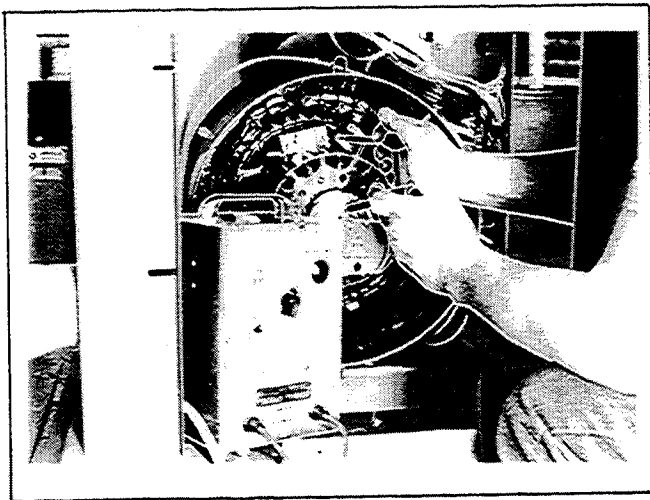

Figure 4-12. High Voltage Test
5. Check for a grounded exciter armature by applying 1,100 volts AC to either A1 or A2 and rotor shaft for NOT MORE THAN ONE SECOND. See Figure 4-12. DO NOT REPEAT TEST.